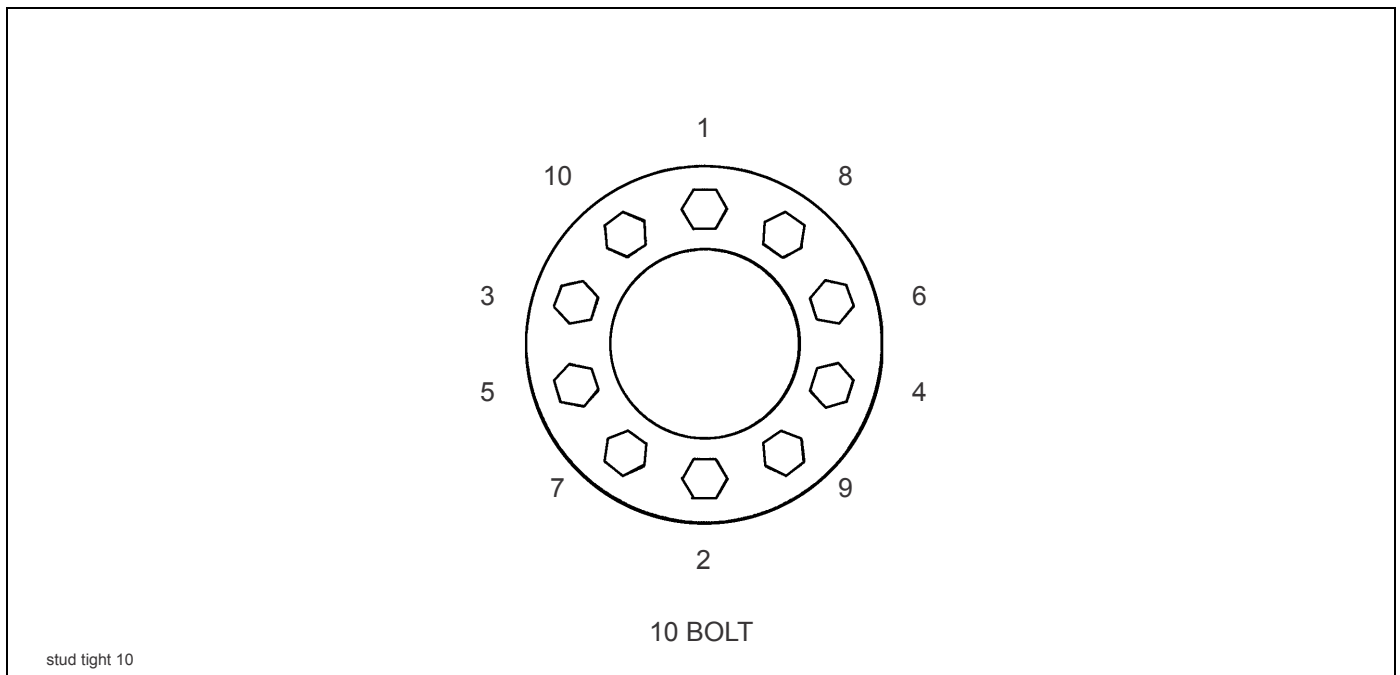

Figure 4-22: Stud Tightening Sequence
4. Install the flange nut (pilot mount) and tighten to 50 foot-pounds using the sequence in **Figure 4-22.** Then tighten to full torque of 500 to 550 foot-pounds.